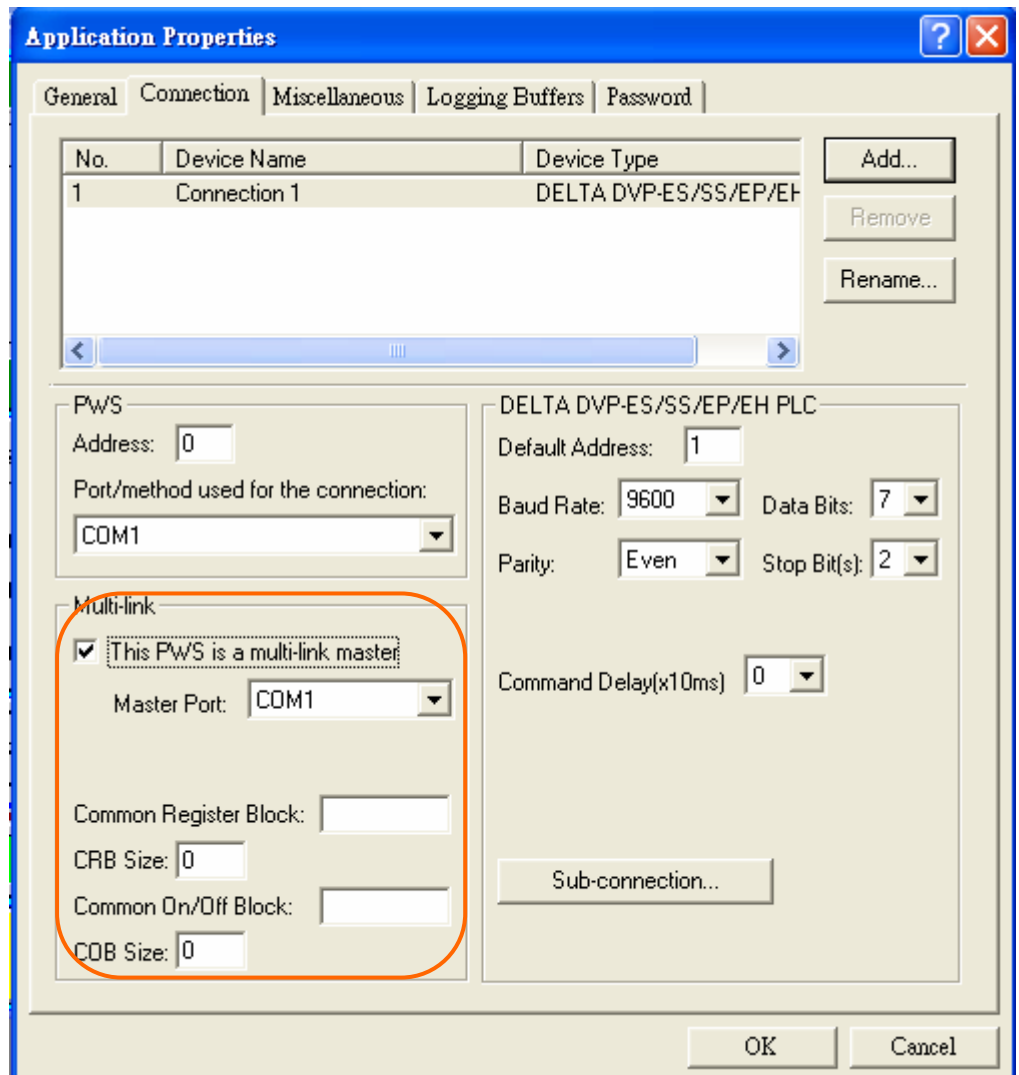

Figure 206. Set up the Parameters for the Master HMI
- (i) Select [Application]/[Workstation Setup], check the [This PWS is a multi-link master] box. Next enter the addresses and sizes in the [Common Register Block], [Common On/Off Block], [CRB Size] and [COB Size] box. See Figure 206.